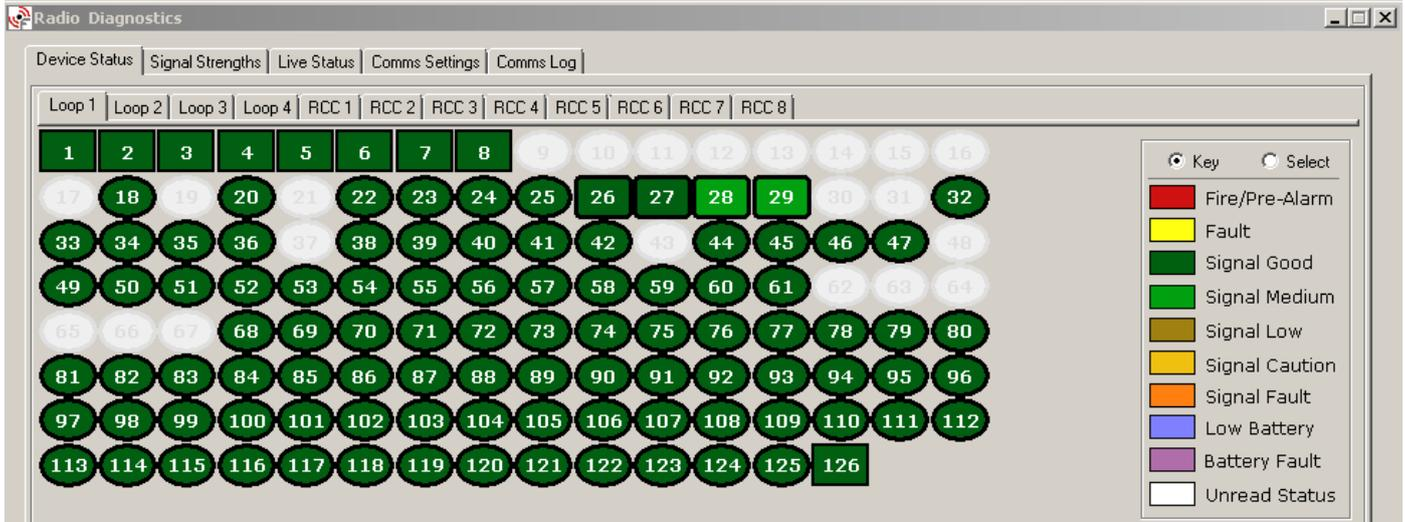

Figure 1
- Maintenance engineers are provided with a new single point verification feature, providing the ability to effortlessly see all device statuses. The engineer can instantly identify if a fault exists, simplifying identification and resolution. *See Figure 1*